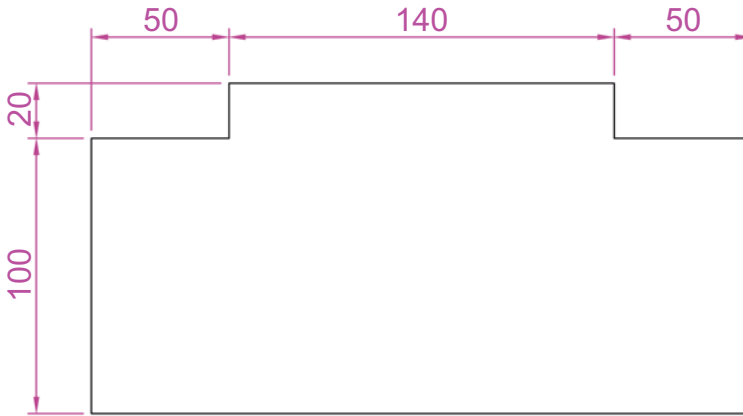

Fig. 12.14 First example – horizontal and vertical dimensions
SECOND EXAMPLE – ALIGNED DIMENSION (FIG. 12.14)
FIRST EXAMPLE – HOR AND VE (HORIZONTAL AND VERTICAL) (FIG. 12.14)
1. Construct the outline Fig. 12.13 using the **Line** tool. Its dimensions are shown in Fig. 12.14.
The result is shown in Fig. 12.14.